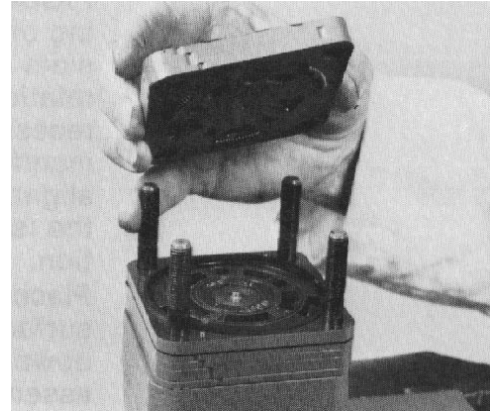

Figure 104
40. Apply a few drops of oil to the valve plate. Align the grooves on the side of the port manifold with the grooves on the side of the isolation manifold and assemble the port manifold with the springs toward the valve plate (Fig. 104). Be careful not to pinch a spring during installation. The two alignment pins in the valve plate will engage the holes in the port manifold. The pin on the hex drive assembly must engage the center hole in the port manifold.